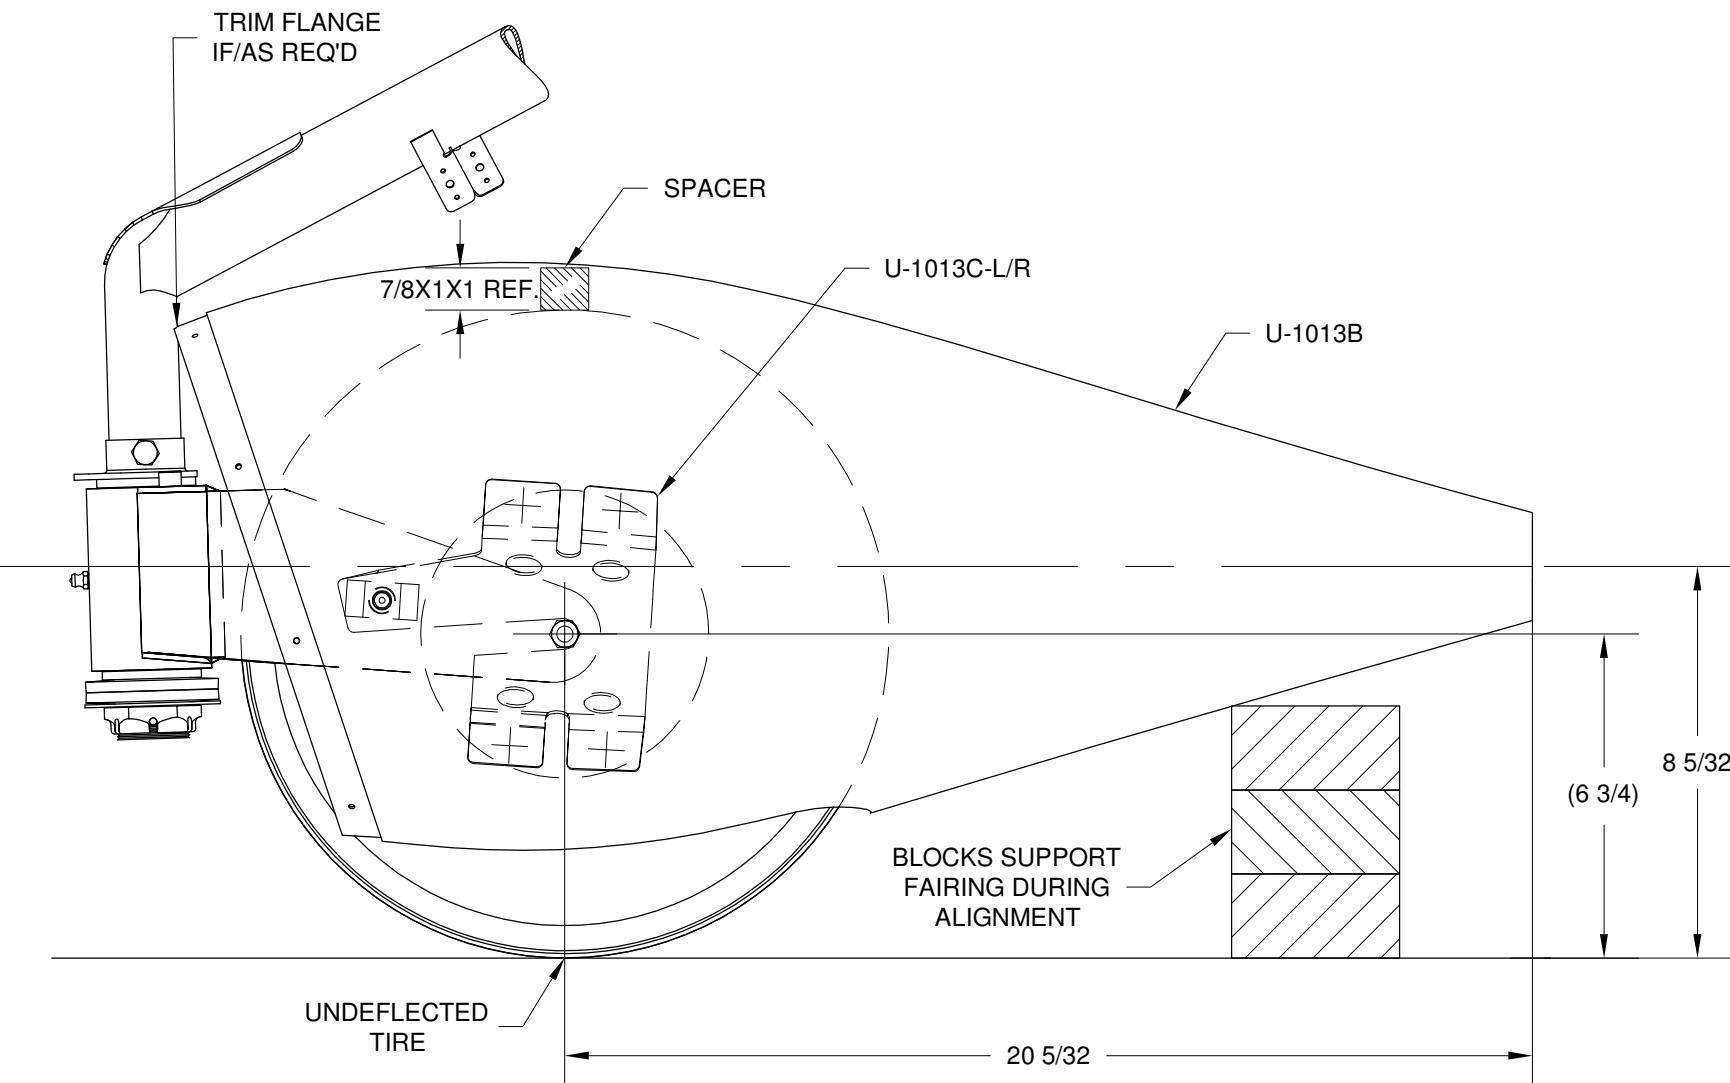

FIGURE 3: ALIGNING THE WHEEL FAIRING REAR
Step 3: Support the aft end of the U-1013B Wheel Fairing Rear using blocks as shown in Figure 3. Position the wheel fairing rear on the U-1013C-L/R Nose Wheel - Fairing Brackets using the dimensions given. Bend the nose wheel - fairing brackets as required to fit to the inside surface of the wheel fairing rear.